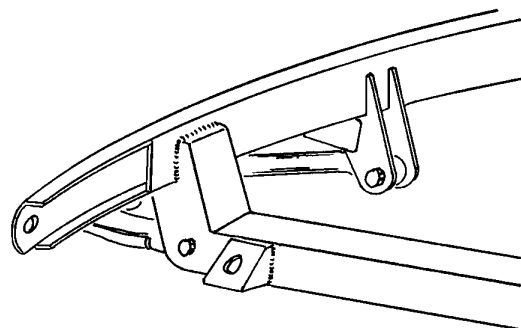

Figure 2
3. Next, fit the Strut Plates to the frame by notching them for your particular application. See Figure 2. It is helpful to first make a cardboard pattern of the plate, then transfer it to the steel. In most applications, the front and rear Plates will be slightly different. Once you have all the Plates fitted, bolt them to the Strut Rod and tack weld to the frame. Remove the Strut Rod and finish welding, inside and out.